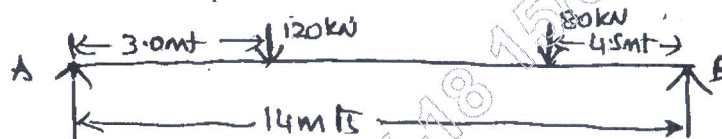

Fig.Q7
- 7 A simply supported beam is subjected to forces as shown in Fig.Q7. If $EI = 336 \times 10^{12}$ N mm². Determine :